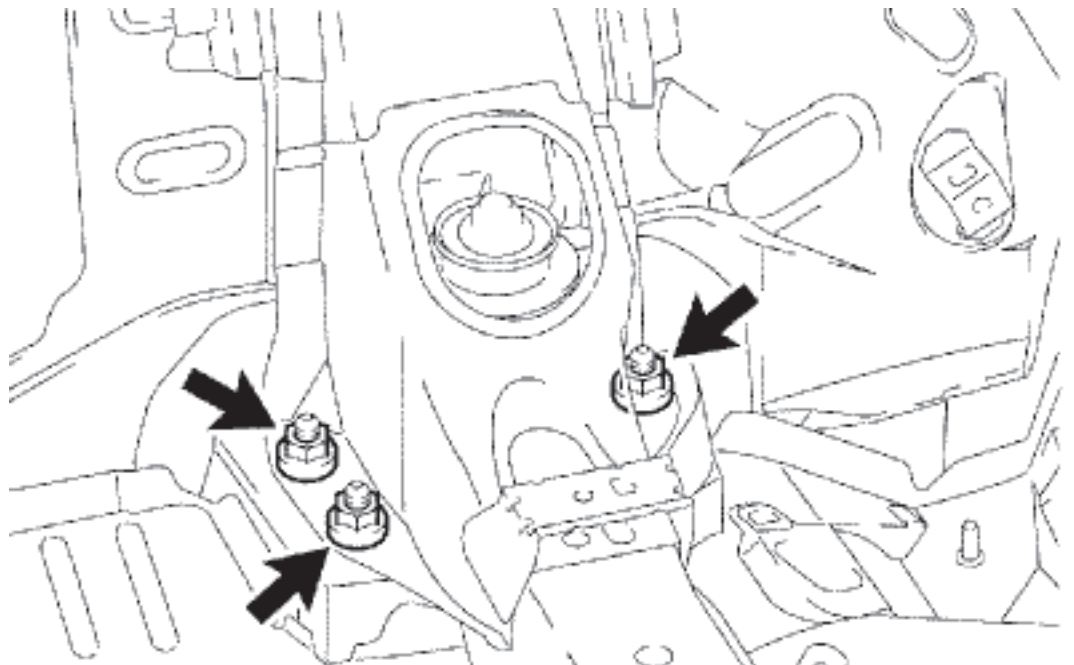

fig. 4
4. Inside the trunk, unthread the three upper mount nuts (fig. 4).